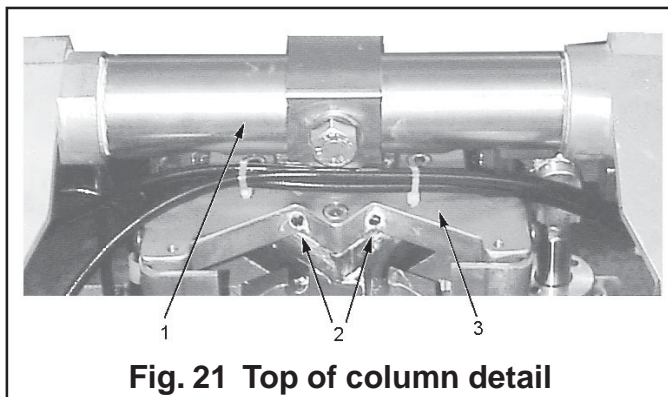
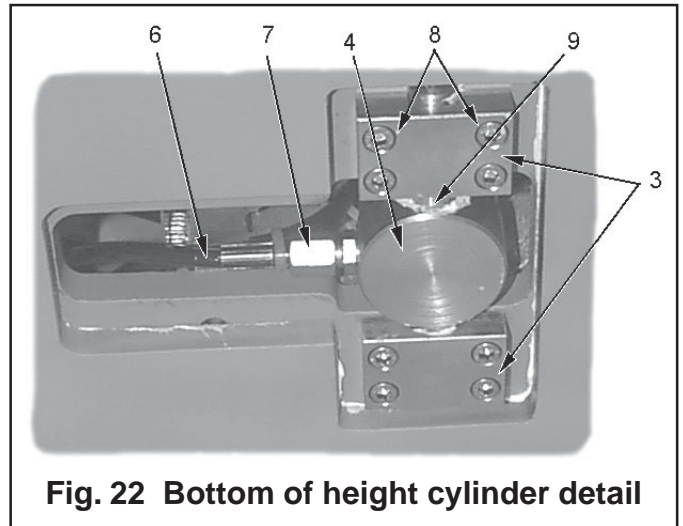

Fig. 21 Top of column detail
Fig. 22 Bottom of height cylinder detail
- iii Locate and remove the four screws (item 2, Fig. 21) in the hinge plate (item 3, Fig. 21) which secure the rod end of the height cylinder (item 4, Fig. 22).
- iv Remove the eight screws (item 8, Fig.22) and washers and remove the two clamp blocks (item 3, Fig. 22) which attach the pivot pin (item 9, Fig. 22) for the height cylinder to the base of the table.
- v Disconnect the bottom hydraulic hose (Fig. 22, item 6) withdraw the height cylinder from the table column and then reconnect the hose. Power cylinder to minimum height to return most of the hydraulic oil to the reservoir. Disconnect both hydraulic hoses and blank off the hydraulic connections and cylinder.
6.41 To install the height cylinder proceed as follows referring as required to Fig. 21 and 22 :
- iv Secure the rod end of the height cylinder to the hinge plate with four set screws (item 2, Fig. 21). It **is important that the socket set screws are below flush of hinge plate when fully tightened.** **Note:** Apply Loctite 222 (Part No.670650) to the threads of the screws prior to installation.